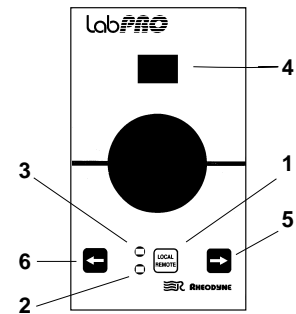

Fig. 9. LabPRO Two-Position Fluid Processor and Double Three-Way Diverter displays and manual selectors.
1. The Two-Position Fluid Processor and Double Three-Way Diverter control panel is shown in Figure 9. Display and operations are:
- a) Local-Remote button (1)
- b) Remote indicator light (2)
- c) Local indicator light (3)
- d) Valve/column position [LED] (4)
- e) Manual forward position selector button (5)
- f) Manual reverse position selector button (6)